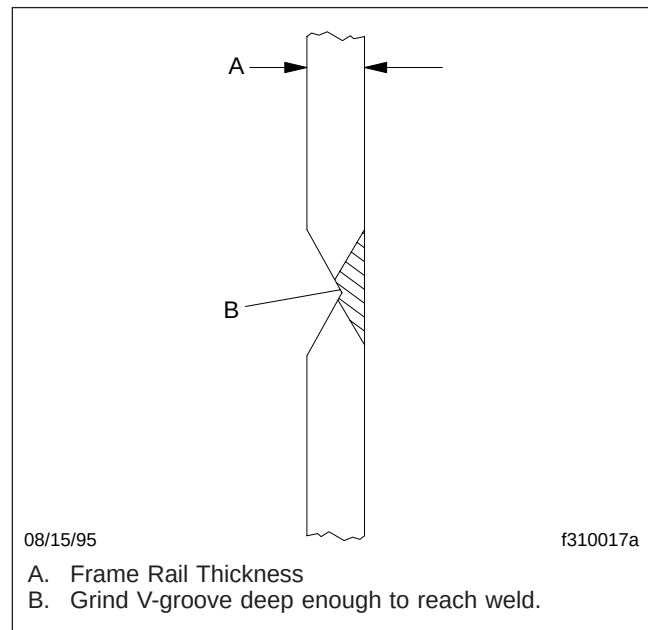

Fig. 6, Cross-Section View
6. Cut a deep enough V-groove on the opposite side of the frame rail to reach the weld metal. See Fig. 6.